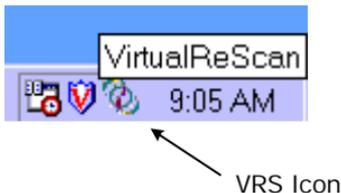

Figure 9. VRS Icon
- 3 The VRS icon appears on your Windows taskbar, similar to Figure 9.